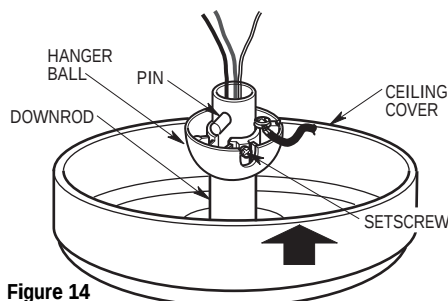

Figure 14
- **16.** Reinstall the hanger ball (Figure 14) on the downrod as follows. Route the motor leads through the downrod. Position the pin through the two holes in the downrod and align the ball so the pin is captured in the groove in the top of the hanger ball. Pull the hanger ball up tight against the pin and securely tighten the setscrew in the hanger ball. A loose setscrew could create fan wobble.